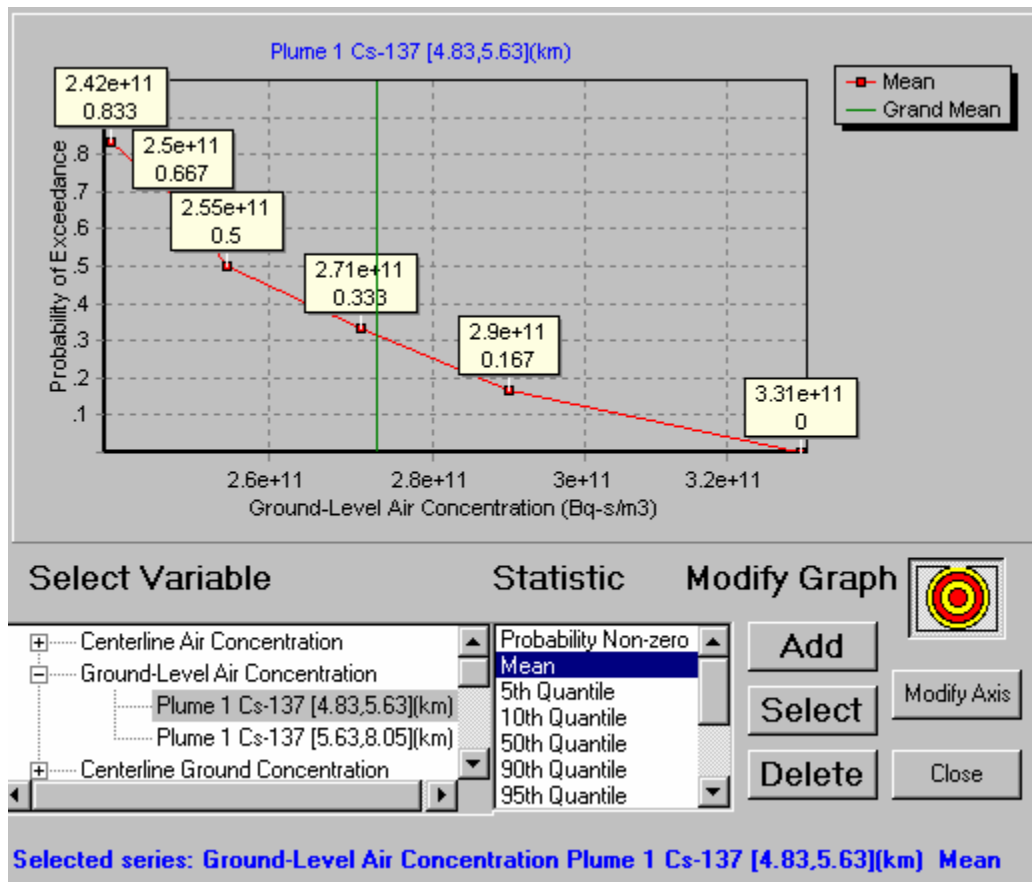

Figure 4-87 Data Values as Text Displayed in a Plot Window
- Click the bulls-eye toggle button. If this toggle is pushed in, as shown in Figure 4-87, the associated data points in the selected series are shown on the graphs as (x, y) coordinate pairs. To view some of the values, it may be necessary to use the zoom feature.